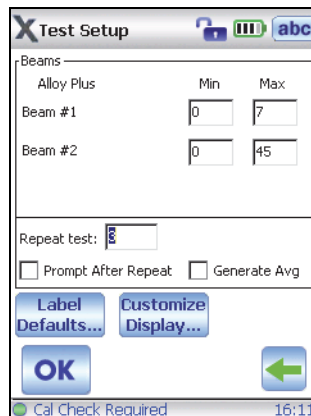

Figure 4-21 The Test Setup screen
9. In the **Test Setup** screen (see Figure 4-21 on page 79), enter the desired beam and other testing parameters using the virtual keyboard.